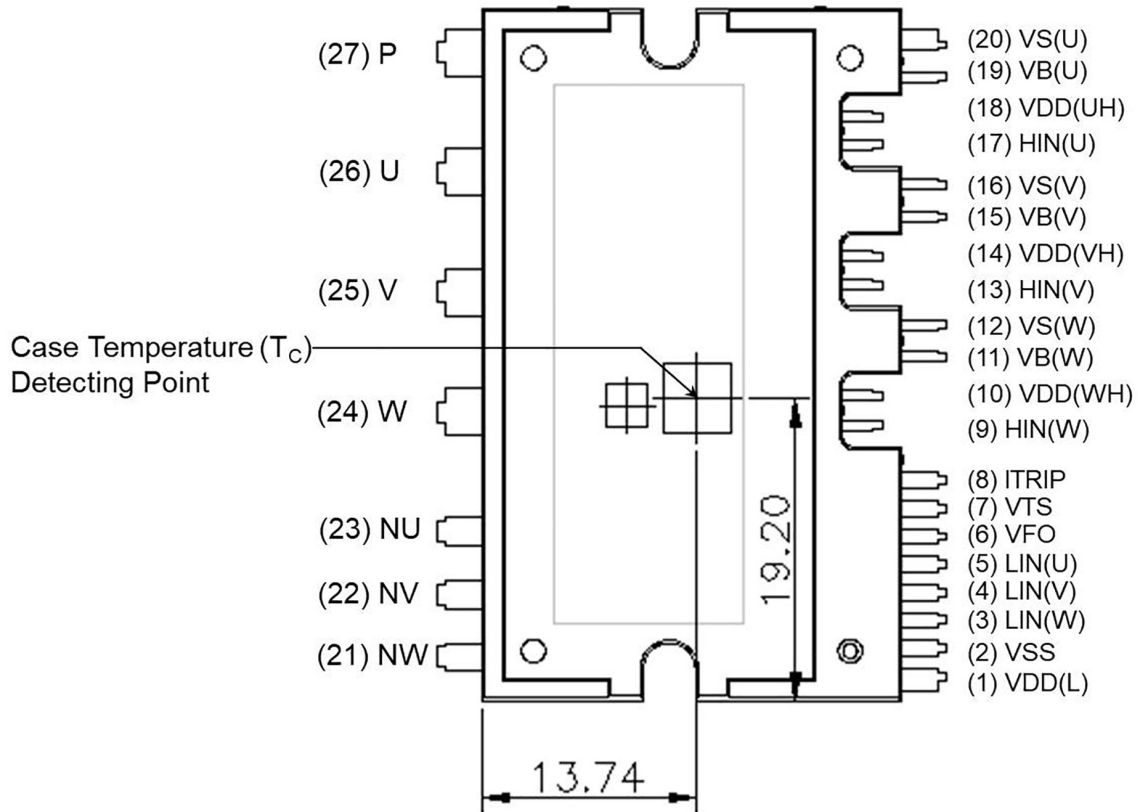

Figure 1. Pin Configuration
- 1200 V – 15 A IGBT inverter for three-phase DC / AC power conversion (Please refer to Figure 1)